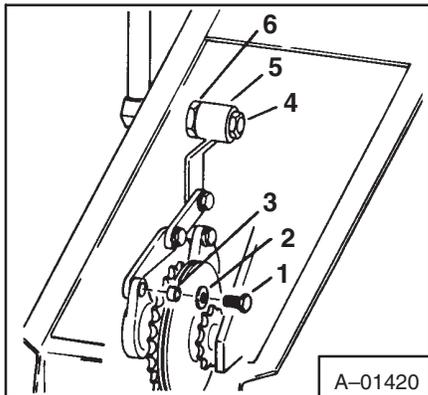

Fig. 89 Clutch Linkage Hardware
Remove the hex screw (Fig. 89, Item 1), flat washer (Item 2) and bushing (Item 3) from the front and rear clutch actuating nuts. Be careful not to drop these parts into the tank.
The steering lever and inside linkage may also be removed to allow more working room. Remove the nut and washer that hold the centering spring to the transmission case wall. Remove the large hex nut (Fig. 89, Item 4) from the end of the pivot shaft. Tap the end of the shaft with a rubber or plastic hammer to release the linkage arm (Item 5) from the tapered shaft. Be sure to remove the Woodruff (half moon) key. Remove the other large hex nut (Item 6) and pull the lever and pivot shaft out of the machine.
**NOTE: When you install clutch linkage to the clutch actuating nuts, use loctite and torque the bolts to 20 ft.-lbs. (Fig. 89, Item 1) maximum so you do not crush the bushings (Fig. 89, Item 3).**